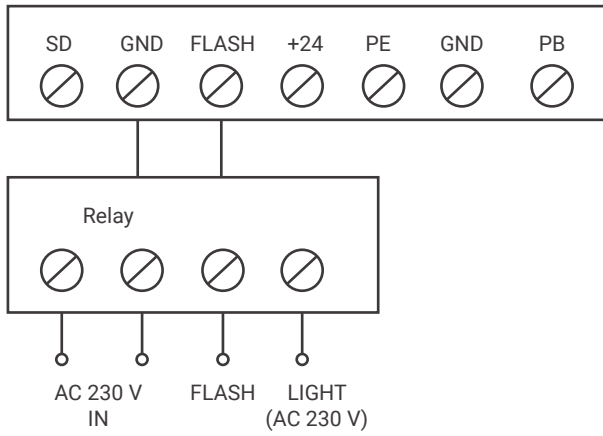
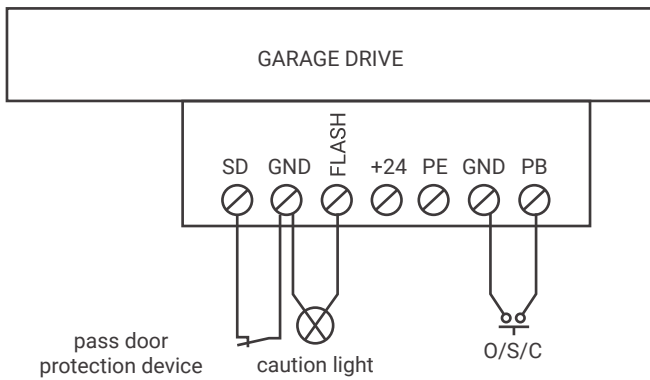

Fig. 18
Fig. 19
The O / S / C input can be used to control the drive using an external switch. The switch must have normally open voltage-free contacts (Fig. 19).
1. The **O / S / C** input allows you to connect a switch to control the drive (Fig. 19).
2. The **signal lamp** (Fig. 18 and Fig. 19).
3. **Pass door protection** (Fig. 19).
The drive is equipped with a mechanism for disconnecting the drive, which allows you to manually open or close the gate in the event of power failure or drive failure (Fig 19). To disconnect the drive, pull the handle. To re-engage the drive, simply close the latch of the drive disconnect mechanism and then move the gate manually or start the drive until the latch locks on the belt or chain.